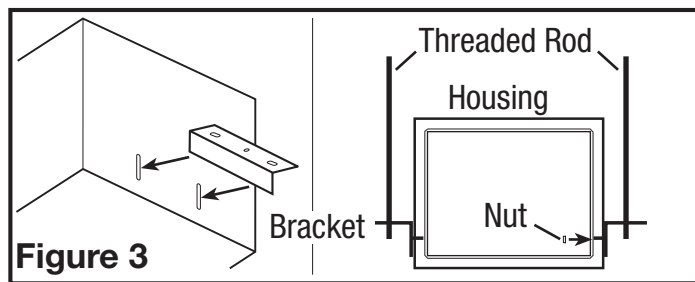

Figure 3
1. If the mounting brackets are not already in place, install both brackets through the top set of slots on the fan housing and secure in place with the four included nuts as shown. Lift unit up onto the threaded rods and secure in place using appropriate hardware (not included) (Figure 3).
4. Unplug the 3-pin quick connect motor plug from the wire compartment and plug it into the 3-pin receptacle on the controller harness coming from the filter box. Connect the 3-pin quick connect connector plug from the harness into the wire compartment receptacle (Figure 3).